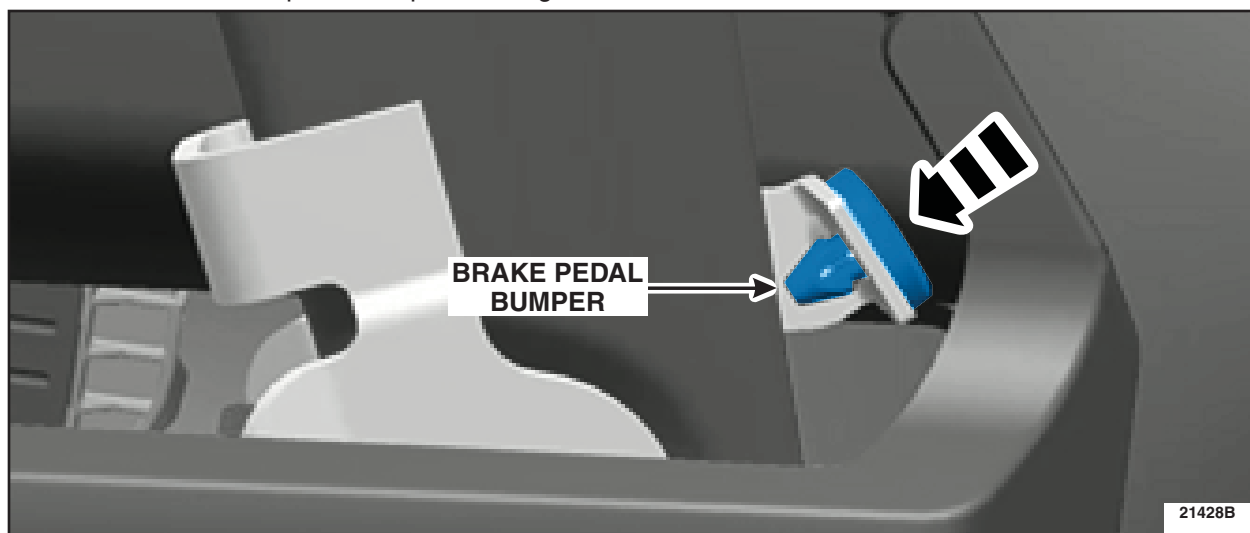

FIGURE 2
2. Install the *new* brake pedal bumper. See Figure 2.